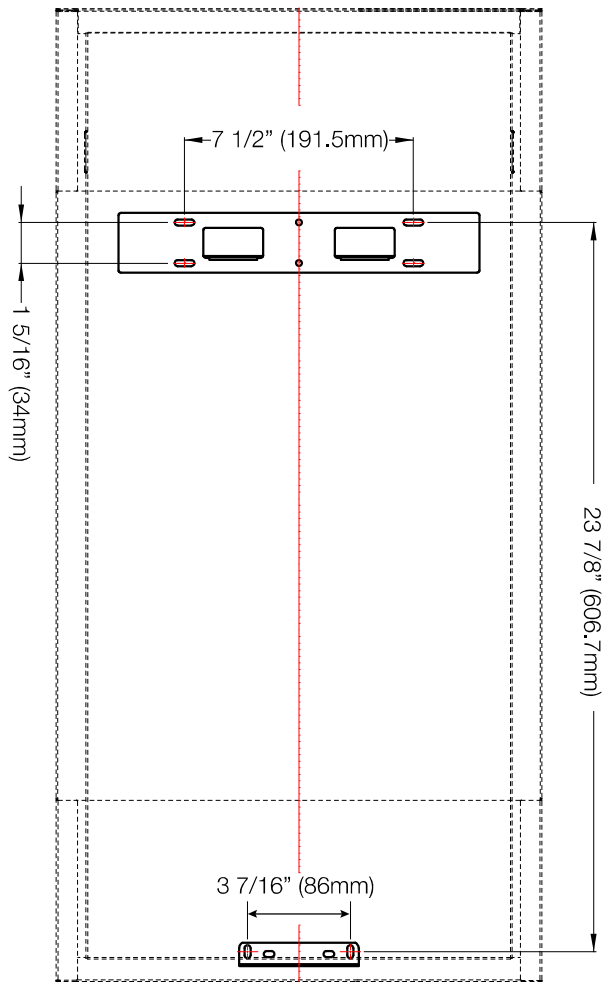
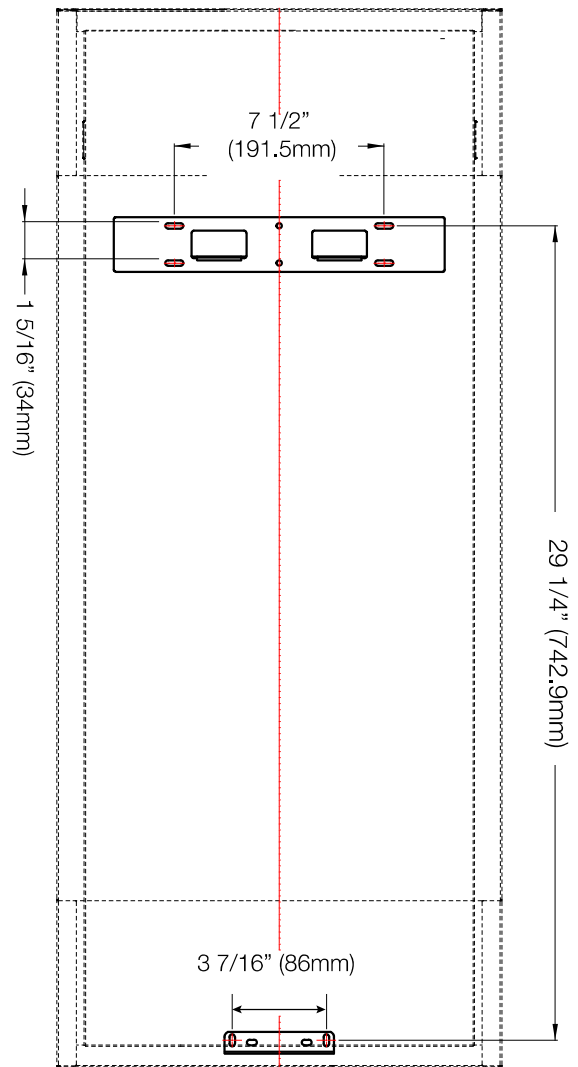

Fig. 2: CEFVC32H Wall Mounting Installation Template
Fig. 3: CEFVC38H Wall Mounting Installation Template
- Using the appropriate wall mounting installation template (**Fig. 2 for CEFVC32H** or **Fig. 3 for CEFVC38H**), mark out the back and bottom bracket locations on the wall.
2. Place the glass into the track located inside the firebox (**Fig. 2**).
3. Push the top of the glass against the top of the plastic panel (**Fig. 3**).
2. For ease of removal, use the bracket hooks to reach behind the glass and pull it forward (**Fig. 3**).